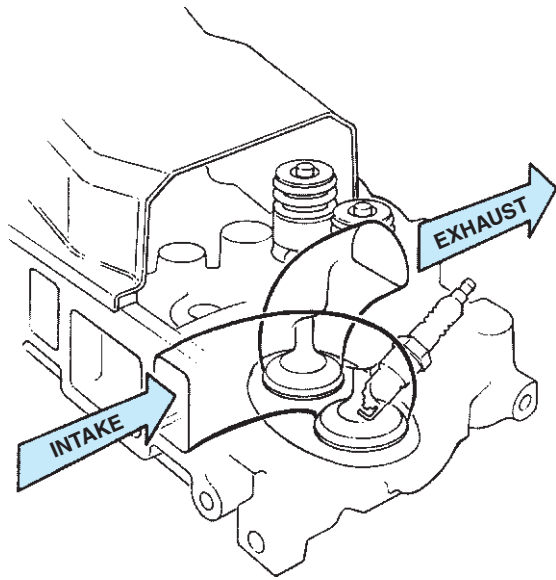

FIGURE 22-6 A typical cross flow cylinder head design where the flow into and out of the combustion chamber is from opposite sides of the cylinder head.
- **Cross flow valve placement**—Valve placement in the cylinder head is an important factor in breather efficiency. By placing the intake and the exhaust valves on the opposite sides of the combustion chamber, an easy path from the intake port through the combustion chamber to the exhaust port is provided. This is called a **cross flow head** design. See Figure 22-6.